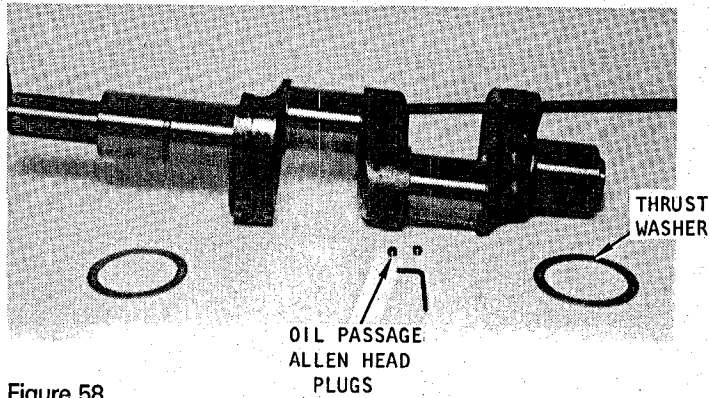

Figure 58
- Remove the thrust bearing on the motor end bearing. Figure 58 illustrates the crankshaft and thrust bearings.